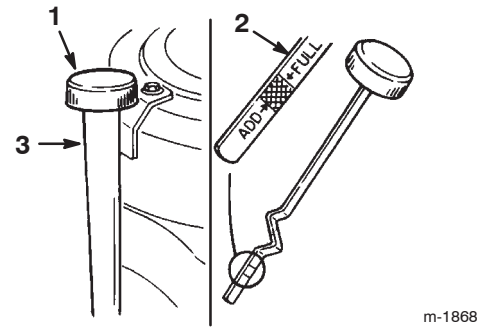

Figure 18
7. Clean around the oil dipstick (Fig. 18) so that dirt cannot fall into the filler hole and damage the engine.
8. Unscrew the oil dipstick and wipe the metal end clean (Fig. 18).
9. Screw the oil dipstick fully onto the filler tube (Fig. 18).
10. Slowly pour about 80% of the specified amount of oil into the filler tube (Fig. 18). Check the oil level; refer to Checking the Oil Level on page 23.